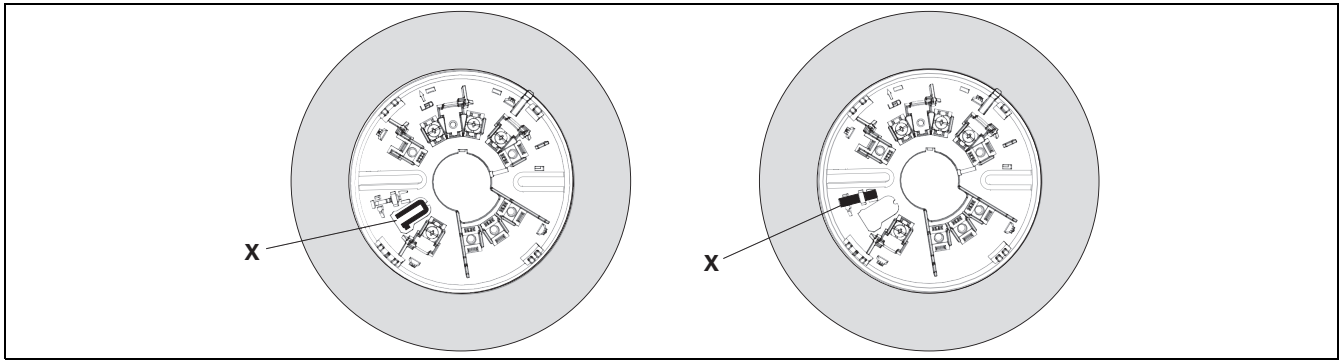

Figure 3.2 Activating the Locking Mechanism
The detector bases are supplied with a snap-off locking bar (X) as part of the base moulding to prevent malicious removal of the detector. The locking mechanism is selectable and is activated by shifting the U-shaped locking bar (X) into the position as shown in *Figure 3.2*.